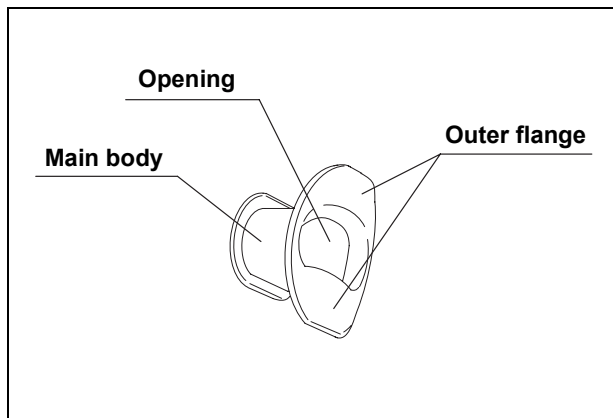

Figure 3.5
1. Confirm that the mouthpiece is free from cracks, deformation or discoloration (see Figure 3.5).
2. Using your fingers, check for excessive scratching or other irregularities on all surfaces of the mouthpiece (see Figure 3.5).